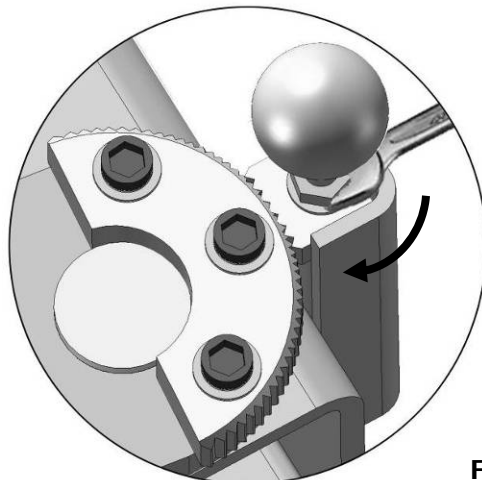

Fig. 35
4. Adjust the Teeth of Arm Locks assembly. Make it mesh with the Gear on the Lifting arm. Tighten the Hex Bolts on the Arm Lock assembly (See Fig. 35).